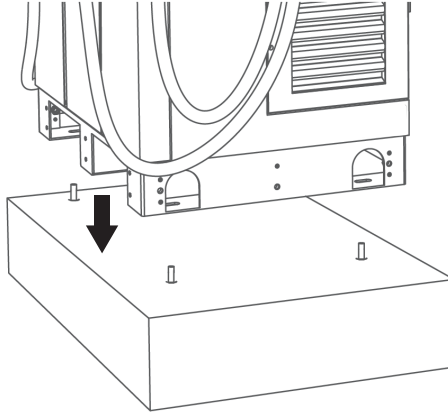

Figure 14. EVSE Placement
1) Lift the charger over the concrete base. See Figure 14.